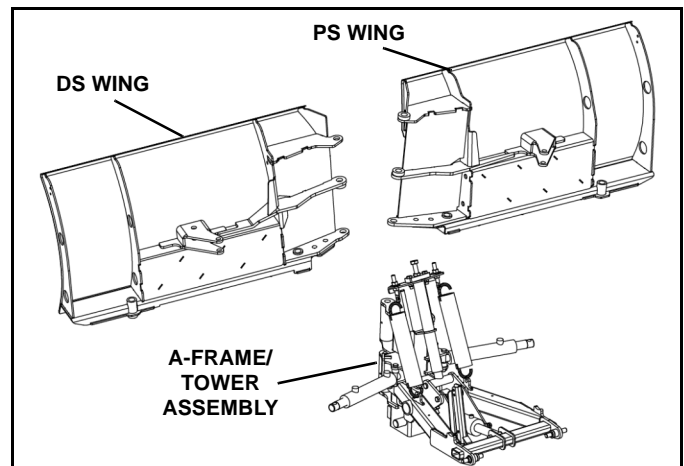

Figure 1-6
7. Position the drivers side (DS) and passenger side (PS) wings in front of the A-frame/tower assembly. (See Figure 1-6).